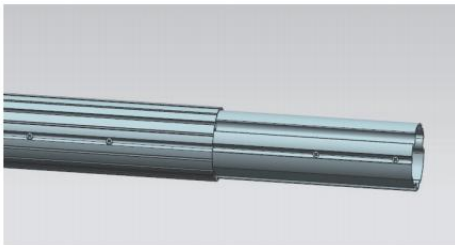
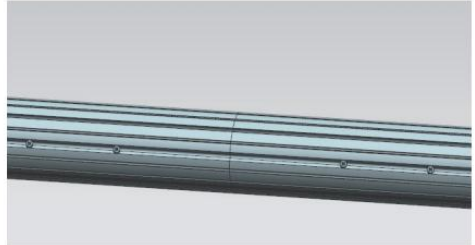

Figure D8
Figure D9
3.4 Pull out the connecting pipes at both ends of the middle coil to the red limit position, and assemble the left and right tube end. Fix the connection with Screw A. (Figure D8, Figure D9)